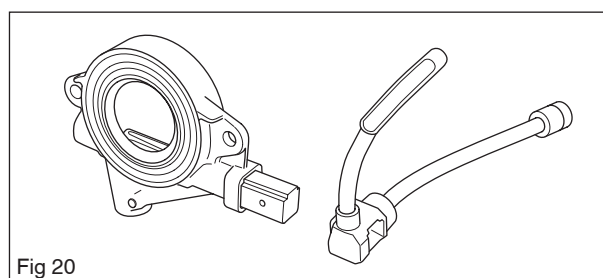

Fig 20
9. Loosen the screws on the oil pump from the crankcase and remove it together with the oil pressure hose. See figure 20.